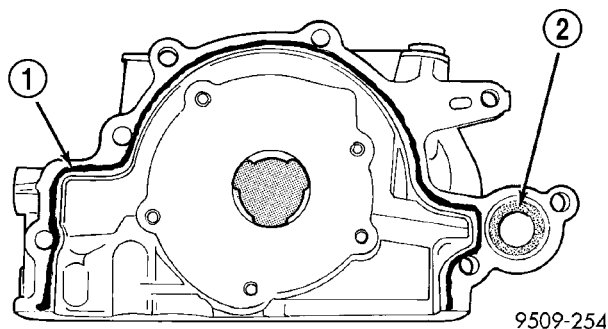

Fig. 125 Oil Pump Sealing
(2) Apply Mopar® Gasket Maker to oil pump as shown in (Fig. 125). Install o-ring into oil pump body discharge passage.
(3) Prime oil pump before installation.
(4) Align oil pump rotor flats with flats on crankshaft as you install the oil pump to the block.